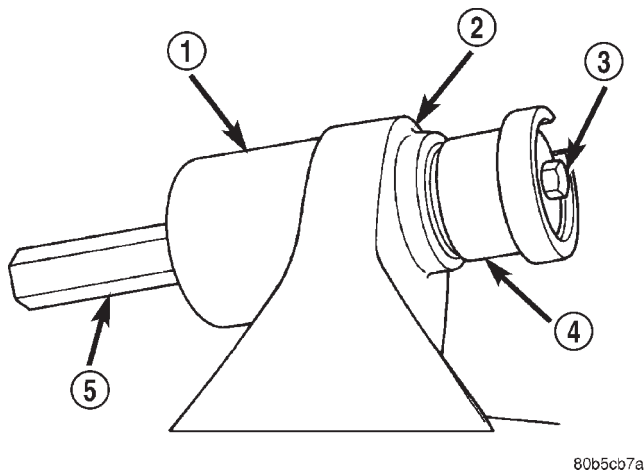

Fig. 9 Bushing Removal
(1) Remove the upper suspension arm from axle.
(2) Position Spacer 8279 over the axle bushing on a 4x2 vehicle and right side on a 4x4 vehicle.
(3) Place Receiver 7932-1 over flanged end of the bushing. (Fig. 9).
(4) Place small end of Remover/Install 7932-2 against other side of the bushing.
(5) Install bolt 7604 through remover, bushing and receiver.
(6) Install Long Nut 7603 and tighten nut too pull bushing out of the axle bracket.